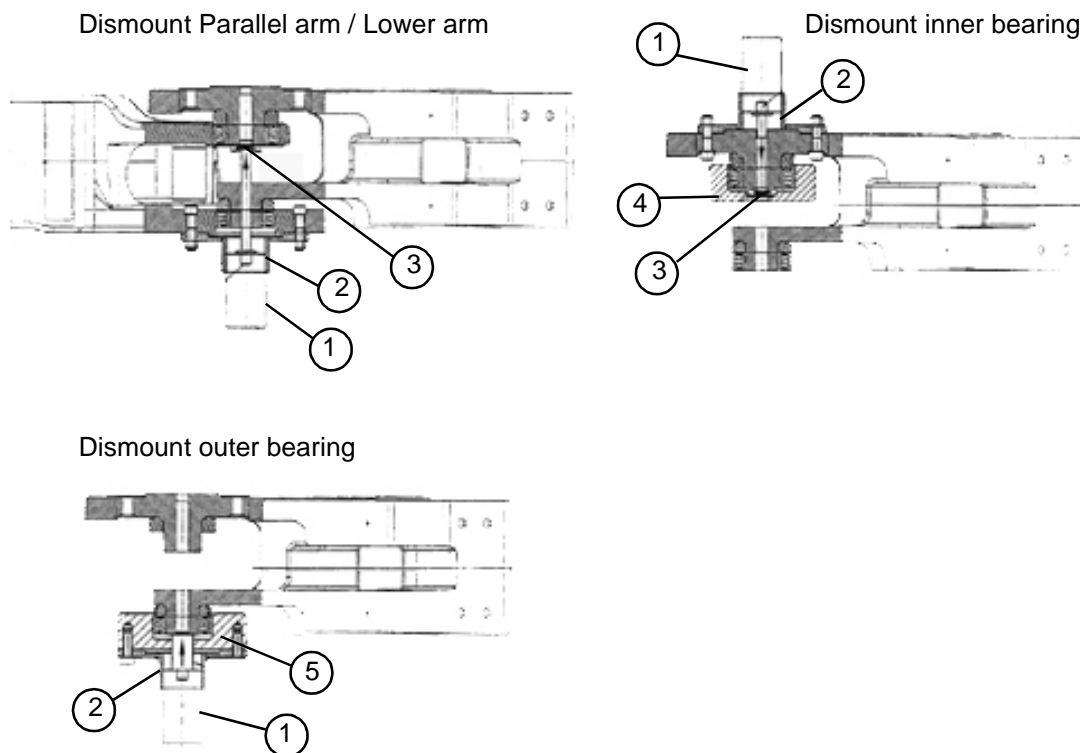

Figure 12 Dismounting Parallel arm and Bearings
4. Place the Cylinder NIKE CHF 612 (1) and tools 3HAC 5526-1 (2) and 3HAC 5523-1 (3) see Figure 12.
7. Press the parallel arm into the lower arm with NIKE CHF 612 (1) and tools 3HAC 5526-1 (2) and 3HAC 5523-1 (3), see Figure 12.
1. Place the cylinder NIKE CHF 612 (1) and tools 3HAC 5526-1 (2), 3HAC 5523-1 (3) and 3HAC 5522-1 (4), see Figure 12.
1. Place the cylinder NIKE CHF 612 (1) and tools 3HAC 5526-1 (2), 3HAC 5523-1 (3) and 3HAC 5522-2 (5) see Figure 12.